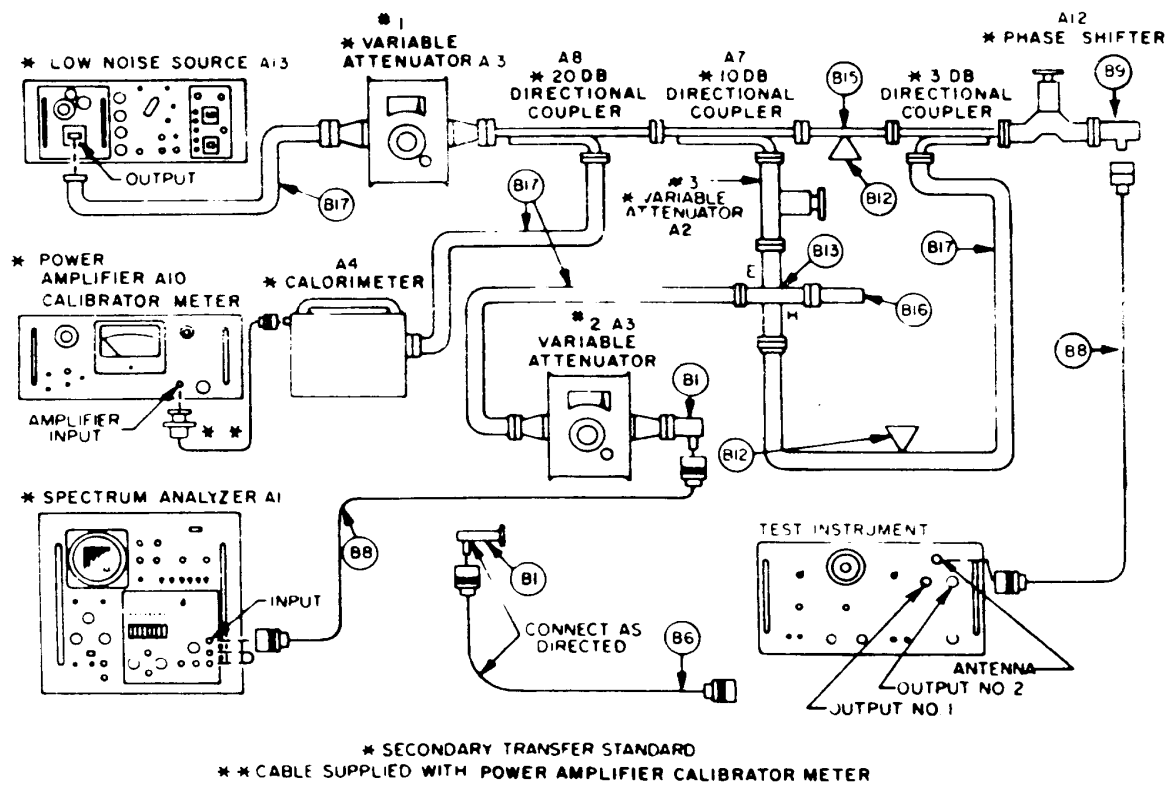

Figure 7. Sideband modulation - equipment setup.
(1) Connect equipment as shown in figure 7.